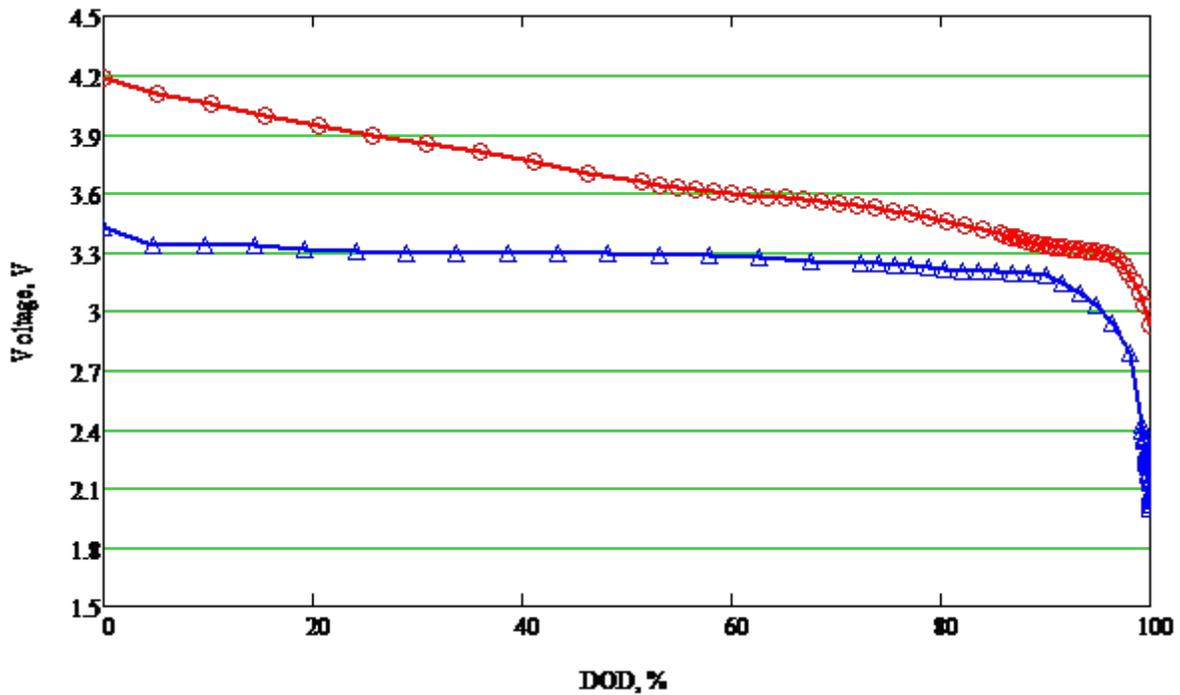

Figure 4. Battery chemistry discharge curve (red = NMC, blue = LFP).
With LFP becoming more popular, the flat discharge curve compared to NMC (as depicted in Figure 4) requires even more accurate cell voltage measurements to determine the usable mileage of an EV. The Texas Instruments (TI) BQ79718-Q1 stackable battery monitor and cell balancer measures 18 cells in series. It provides cell voltage measurements to ± 1 -mV accuracy, with passive cell balancing featuring 300-mA current capability. The device also supports voltage and current synchronized measurements together with the BQ79731-Q1 battery monitor to provide more accurate state-of-health and state-of-charge calculations.